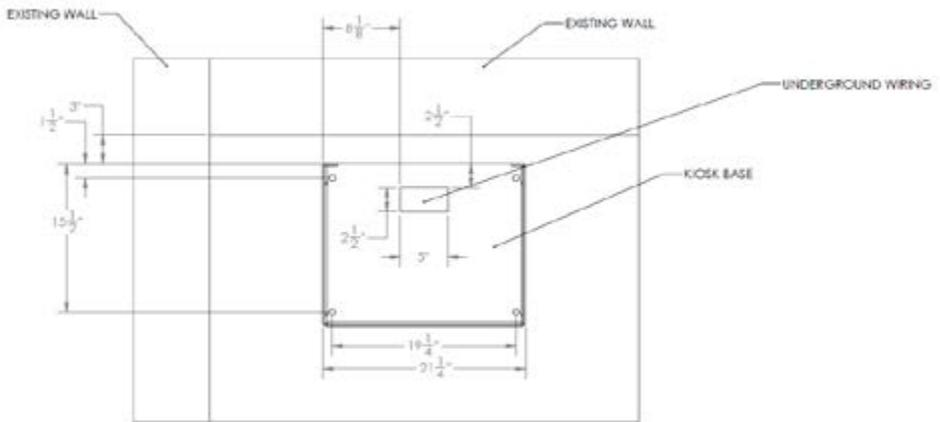
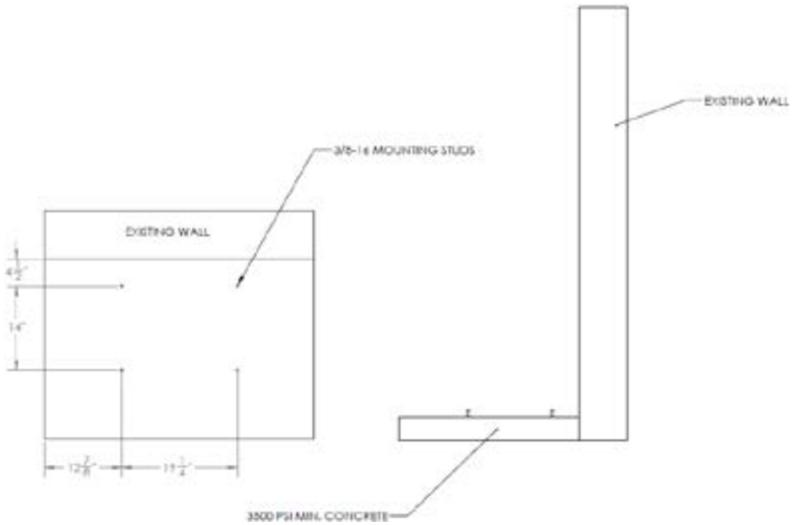

Figure 1: Model 723 Pedestal Base Layout View
Figure 2: Model 723 Concrete Pad Specifications
The INSOMNIAC 723 must be mounted on a concrete pad. Four (4) bolts will need to be anchored into the pad with which the pedestal base is to be attached. Holes in the pedestal base allow for 3/8" bolts to be used (please follow the bolt manufacturer's recommendations when anchoring bolts in concrete). Please see Figure 1: Model 723 Pedestal Base Layout (page 10) for pedestal base layout, and Figure 2: Model 723 Concrete Pad Specifications (page 11) for concrete pad specifications.
| Figure 1: Model 723 Pedestal Base Layout..... | 10 |
| Figure 2: Model 723 Concrete Pad Specifications..... | 11 |